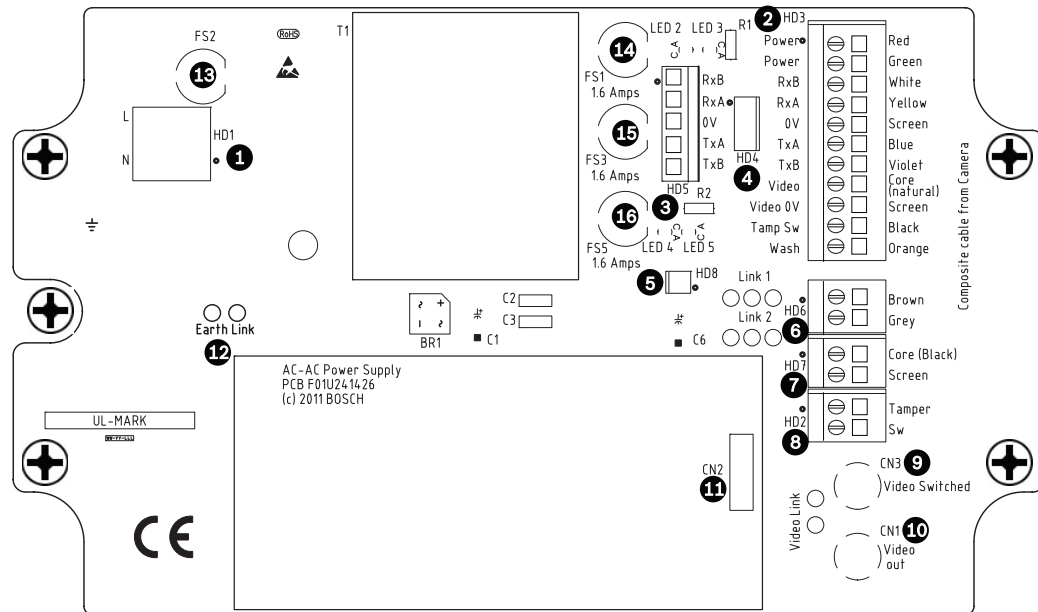

Figure 4.1 Layout of MIC-240PSU-2 and MIC-115PSU-2
The MIC PSUs for MIC612 cameras have four (4) off 20 mm fuses (numbers 13 - 16 in *Figure 4.1*) in fuse holders. The ratings for these fuses are fixed on the low voltage secondary side but change with input voltage on the high voltage primary side. The following table shows the fuse values that should be fitted to provide proper protection for the MIC-240PSU-2 and MIC-115PSU-2 power supplies. **Note:** FS 4 does not exist.